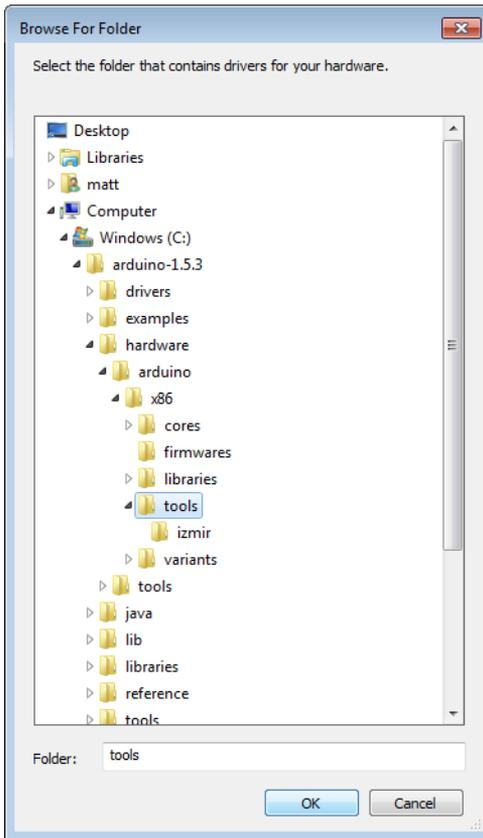

Figure E-4. *Finding the driver in the Arduino folder*
7. If you installed your Arduino IDE folder in the root of your hard drive, navigate to `C:\arduino-1.5.3\hardware\arduino\x86\tools` and click OK. (Figure E-4). Otherwise, you'll have to find where you installed the Arduino folder.